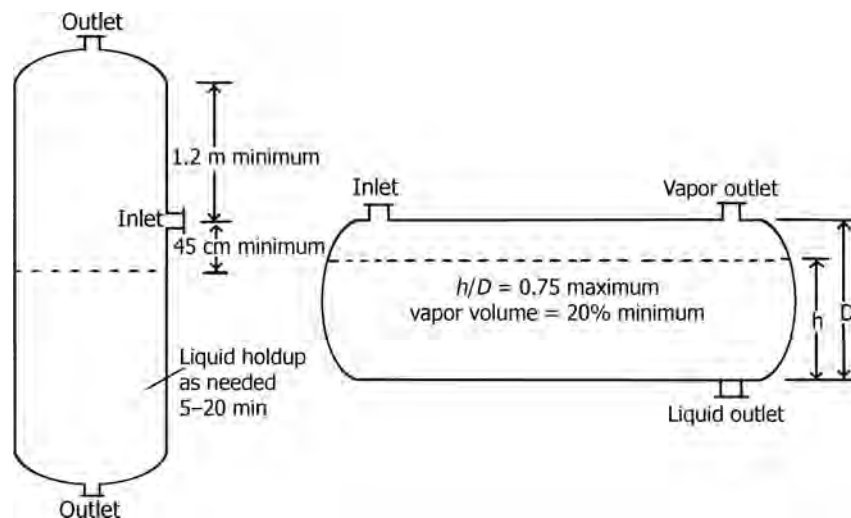

FIGURE 16.36 Important dimensions of vertical and horizontal knockout drums.
- Figure 16.36 illustrates the important dimensions of vertical and horizontal knockout drums.